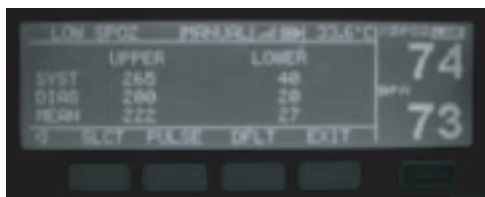

Figure 10: NIBP Alarm Limits Setting
- Press **LIMIT** followed by **NIBP** to view upper and lower limits of Systolic, Diastolic and Mean. Refer to Fig.10.